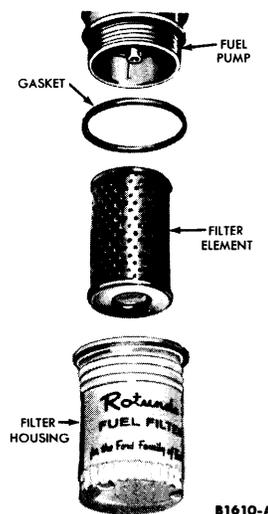

FIG. 4—Fuel Filter Assembly
The fuel filter is integral with the fuel pump (Fig. 4). The filter contains a replaceable element. Replace the element if it becomes clogged and at the recommended interval (Group 12).
2. Place a new filter element over the spout in the fuel pump (Fig. 4). Coat a new gasket with light engine oil and position the gasket on the filter housing. Screw the filter housing on the pump. Hand tighten the filter housing until the gasket contacts the pump, then advance it 1/8 turn.